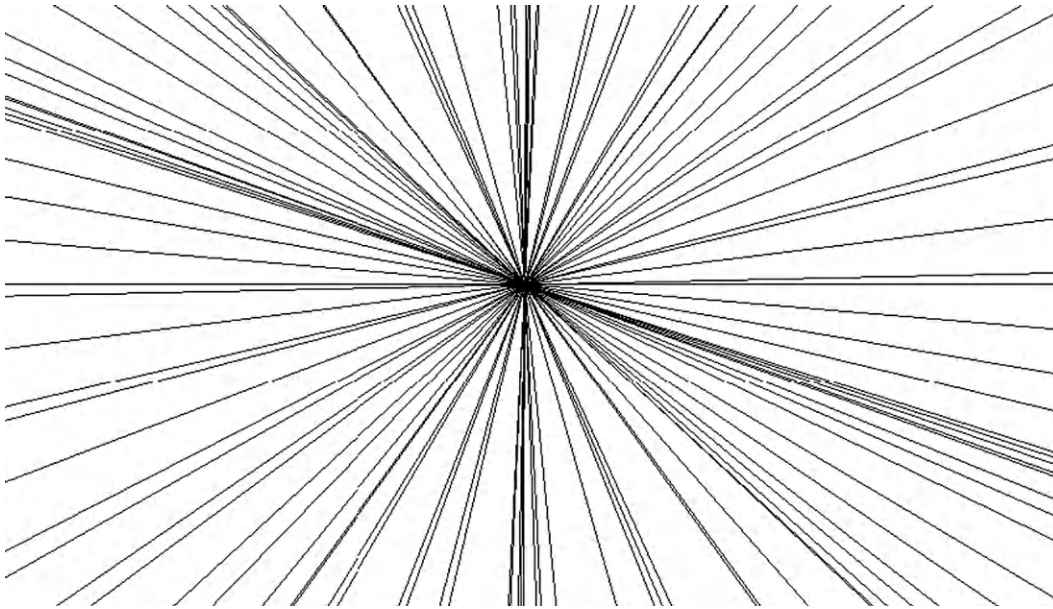
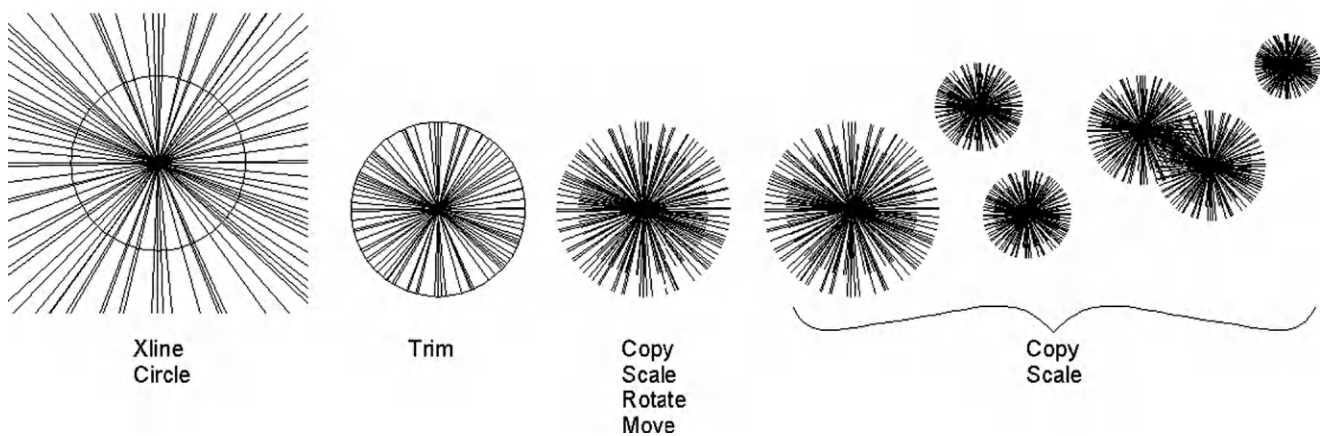

FIGURE 11.11
FIGURE 11.12
- Step 3.** Click randomly anywhere along the screen and multiple xlines appear. Figure 11.11 shows one result of clicking in a circular manner.
Figure 11.11 is perhaps not the most useful of creations, but landscape designers may find some use for the result of placing a circle at the intersection of those lines and trimming. Then, via some creative scaling, rotating, and copying, you get the reasonable representation of trees or shrubs in Figure 11.12.